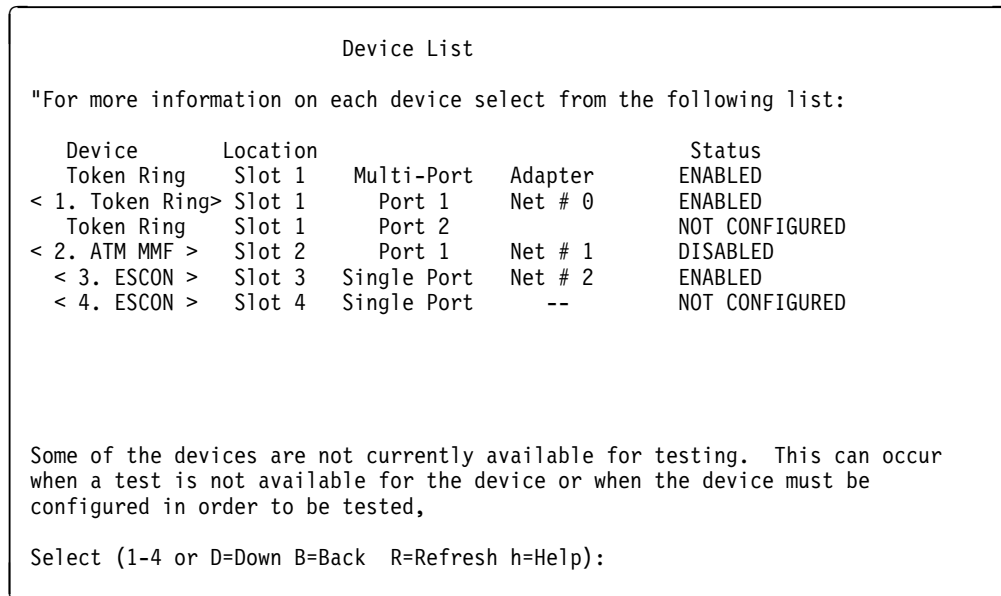

Figure 5-2. Sample of Device List Panel Showing Interfaces
3. Select **<1. The Device List >** to view a list of installed devices. (Status and test options for each device are from the Device List page.) The Device Status and Control panel (similar to the one in Figure 5-2 on page 5-3) appears.